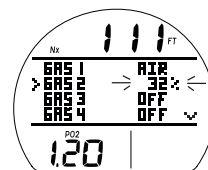

Fig. 23A - SET FO2 (changing the setting)
- A (press/hold), while the FO2 digits are flashing (Fig. 23A) - to scroll upward through the Set Points from Air to 21 through 100 in 1% increments, at a rate of 8 per second.